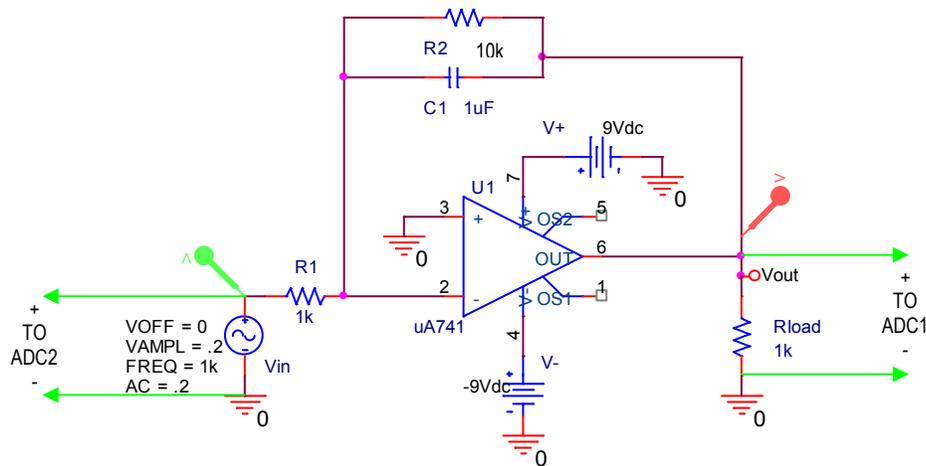

Figure C-3.
- Build the integration circuit shown below in Figure C-3. V1 should have a 200mV amplitude and 1kHz frequency.
- Build the op-amp integrator circuit as shown in Figure C-3.